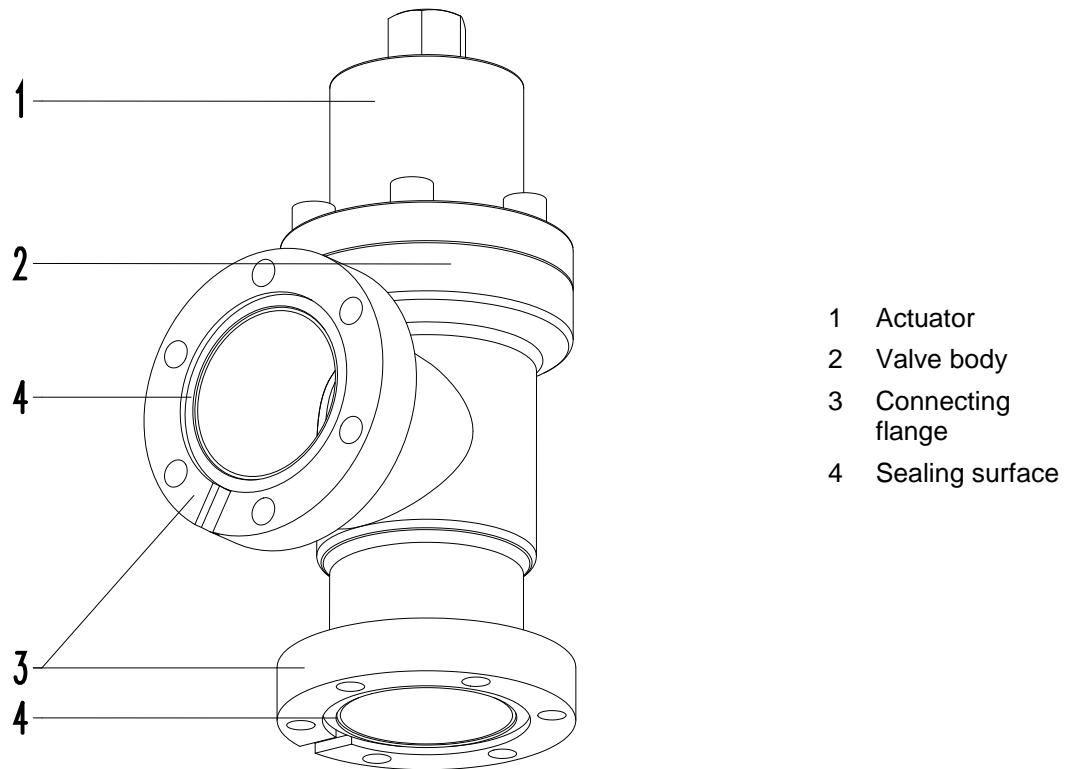

Figure 3-1
3. Clean sealing surfaces; see «Figure 3-1» on page 7, with cleanroom wiper soaked with pure alcohol (Isopropanol).